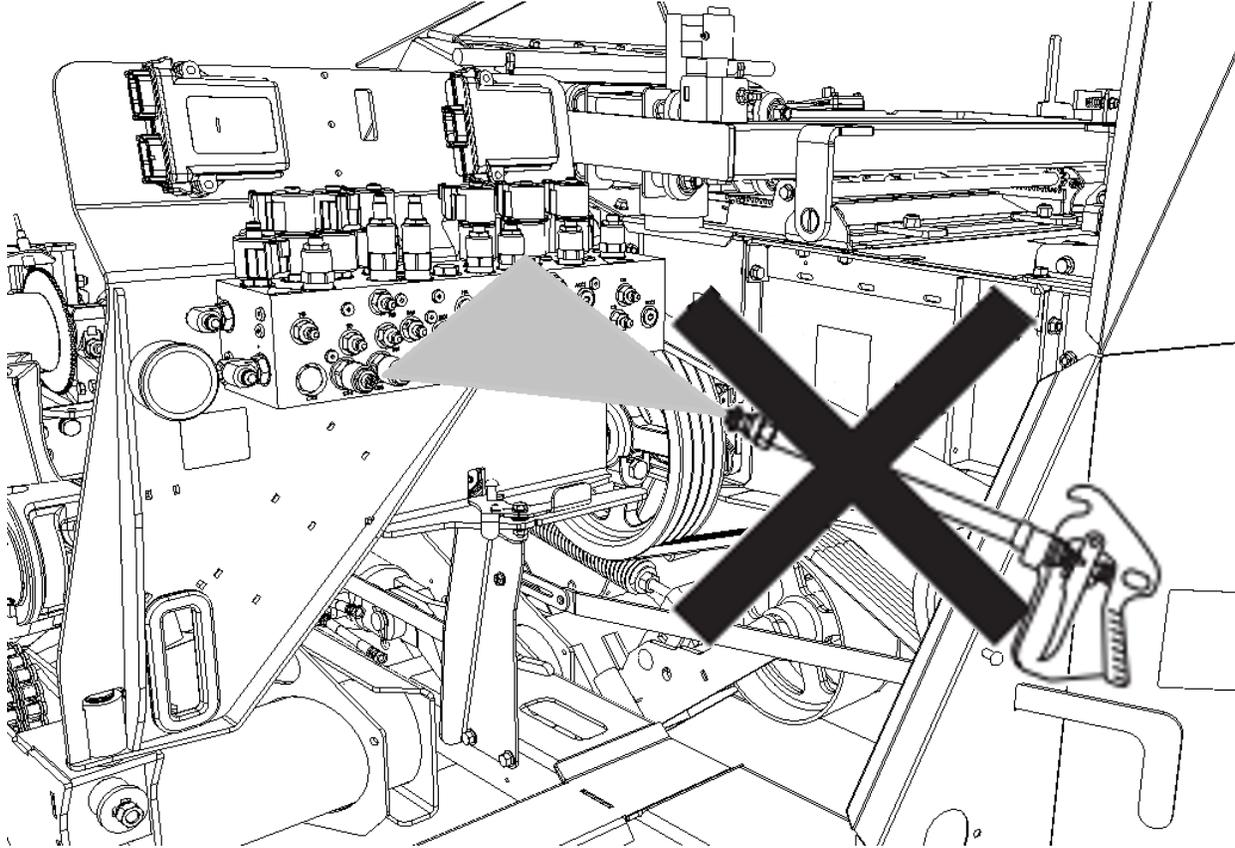

Figure 146 Pressure washing
**NOTE: Never pressure wash the electronic controls, bearings, solenoid valves, hydraulic valve manifolds or other component containing seals (Figure 146).**